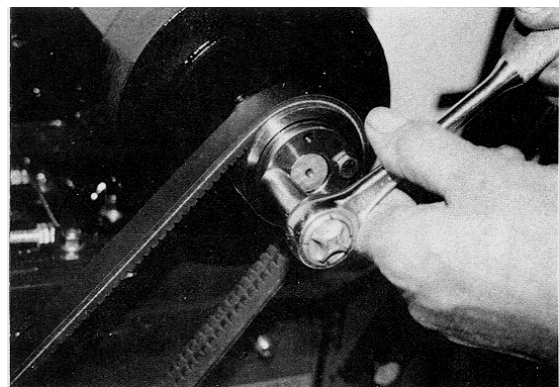

FIGURE 37
e) Tighten the 1/4-inch diameter capscrews progressively with the torque wrench to 95 inch pounds. FIGURE 37.